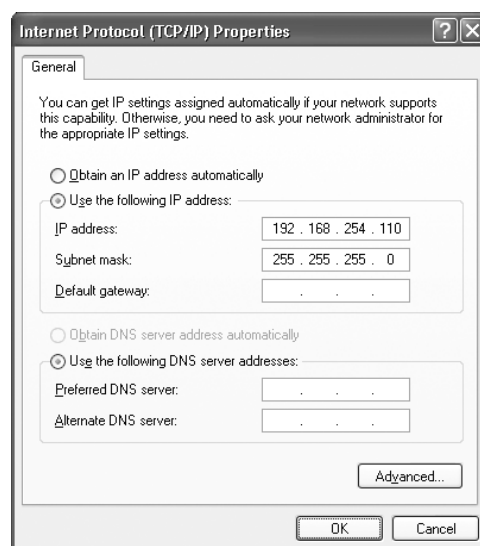

Figure 3
- When you click on the Internet Protocol button, a window like Figure 3 should appear